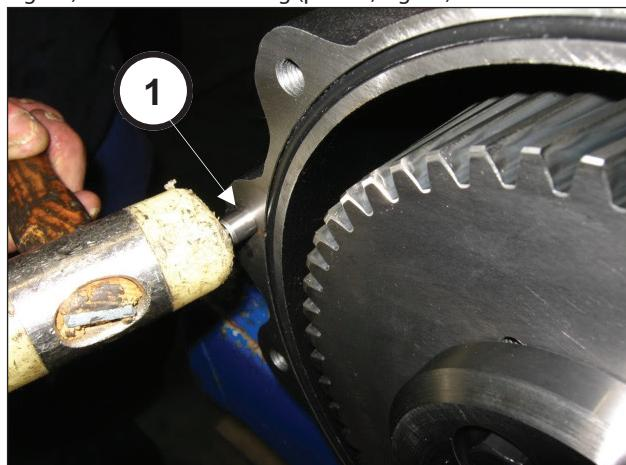
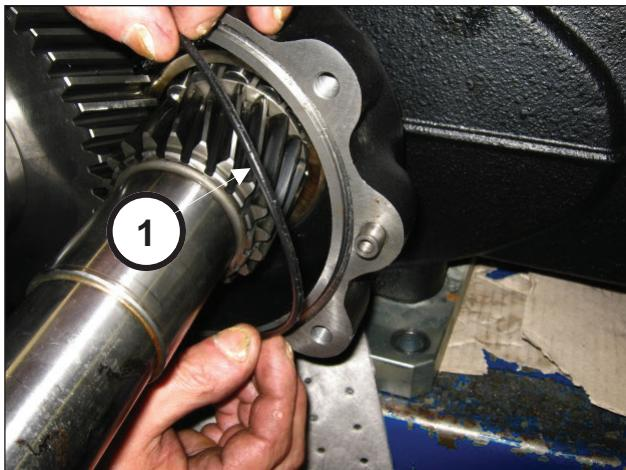

Fig. 70
Fig. 71
Apply the 2 Ø10x24 pins on the reduction gear box (pos. ①, Fig. 70) and insert the O-ring (pos. ①, Fig. 71).